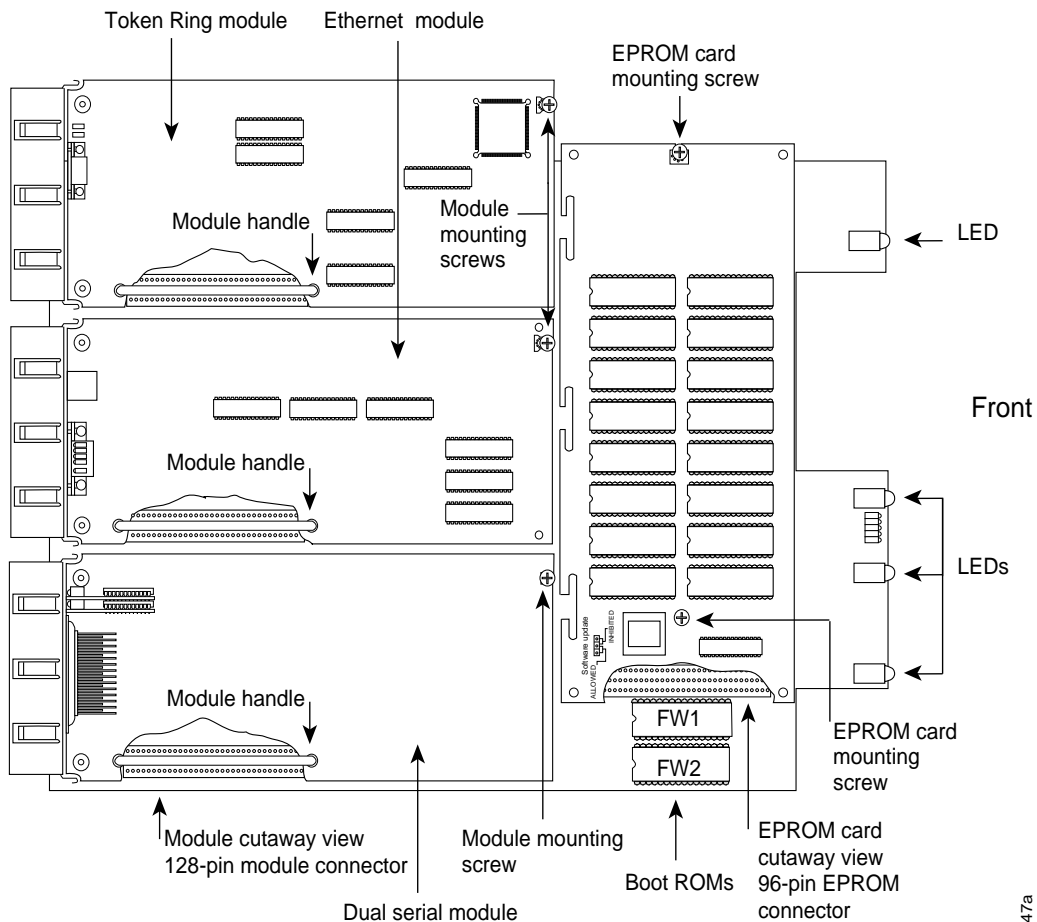

Figure 3 Cisco 4000 Series Component Tray—Cisco 4000 Shown
Step 1 With the component tray in front of you (as shown in Figure 3), remove the module mounting screw from the top end of the network processor module and the two external rear mounting screws if the module has them, and set the screws aside.
Step 1 Start with the component tray in front of you as in Figure 3. Remove the two card mounting screws from the top of the Flash EPROM card and set the screws aside.